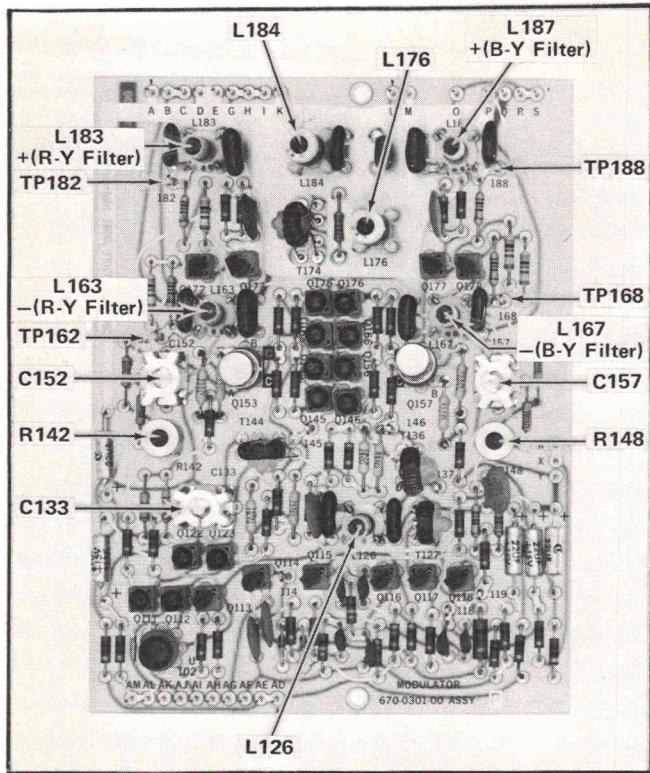

Fig. 5-14. Modulator board adjustment and test point locations.
d. Connect the 10X probe tip to TP188 on the Modulator board (see Fig. 5-14).
g. ADJUST—C157, R148, C152, and R142, (see Fig. 5-14) for minimum peak-to-peak chrominance on the blanking level.
f. ADJUST—C133 (see Fig. 5-14) until the requirement of part e is met.
e. ADJUST—L126 (See Fig. 5-14) for best color bar overlay; must be within 10 mV. (See Fig. 5-17B for improper display.)
f. ADJUST—C422 (see Fig. 5-19) and Readjust L163 (see Fig. 5-14) for minimum 3.58 MHz aberration between burst and the first color bar.
h. ADJUST—C427 (see Fig. 5-19) and Readjust L167 (see Fig. 5-14) for minimum 3.58 MHz aberration between burst and the first color bar.
f. ADJUST—L176 and L184 (see Fig. 5-14) for (1) best green-magenta transition; (2) best square corner on the magenta chrominance; (3) best overlay of the displays. (See Fig. 5-20B.)